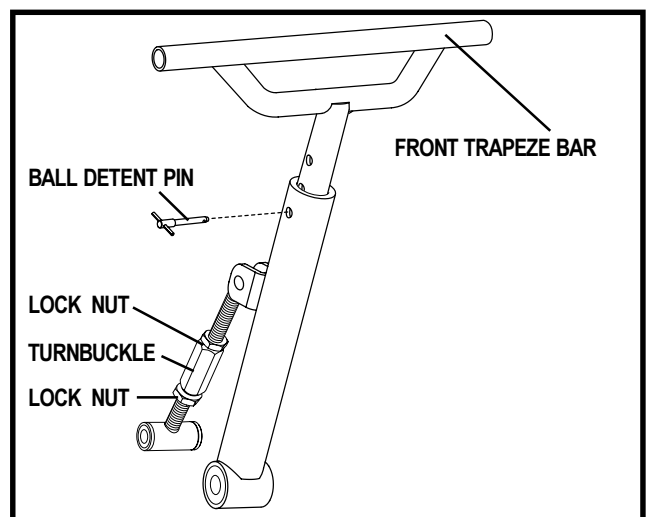

Figure 12. Front Trapeze Bar Adjustment
16. Use the turnbuckle to adjust the front trapeze bar so that it fits into the front extrusion snugly. See figure 12. Loosen the locknuts on the turnbuckle. Then turn the turnbuckle clockwise to adjust the front trapeze bar backward or turn it counterclockwise to adjust the front trapeze bar forward. When you are finished adjusting the front trapeze bar, tighten both locknuts.